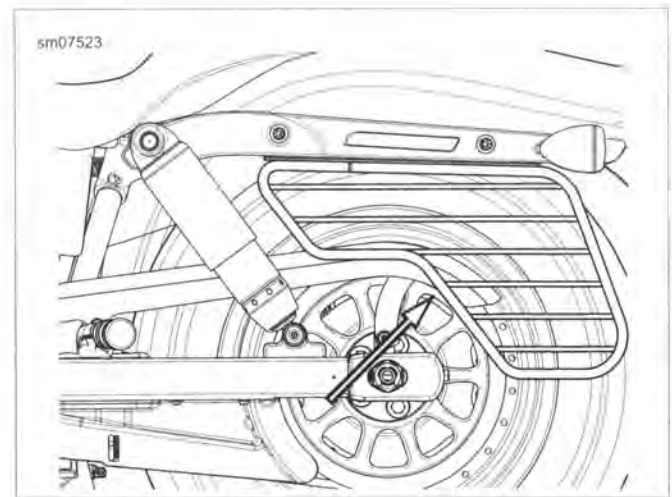

Figure 2-169. Saree Guard, Left Side
1. See Figure 2-169. Install front mounting screw through saree guard and leave loose.